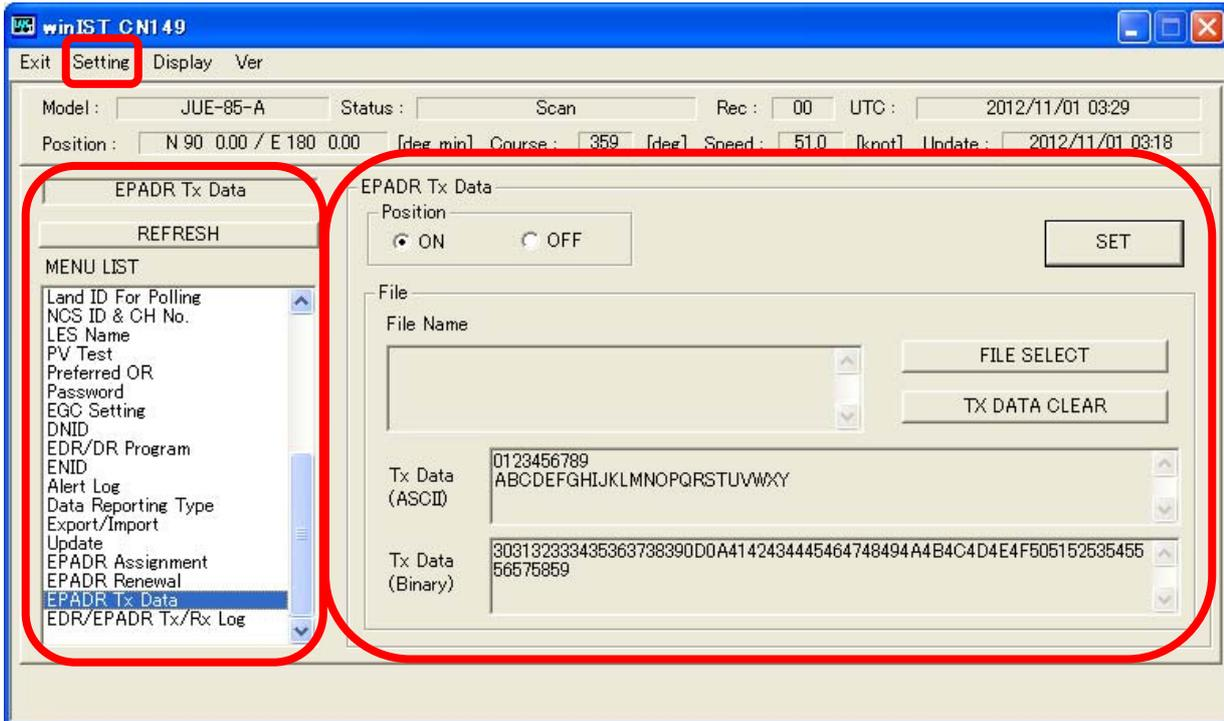

Fig. 4-36-1a [EPADR Tx Data] screen
2. Operation except [Exit], [Display], and/or [Ver] is not possible while winIST is communicating with INMARSAT terminal(the function in the frame of **Fig. 4-36-1a [EPADR Tx Data] screen** cannot be operated).
4. Operation except [Exit], [Display], and/or [Ver] is not possible while winIST is communicating with INMARSAT terminal(the function of **Fig. 4-36-1a [EPADR Tx Data] screen** cannot be operated.)